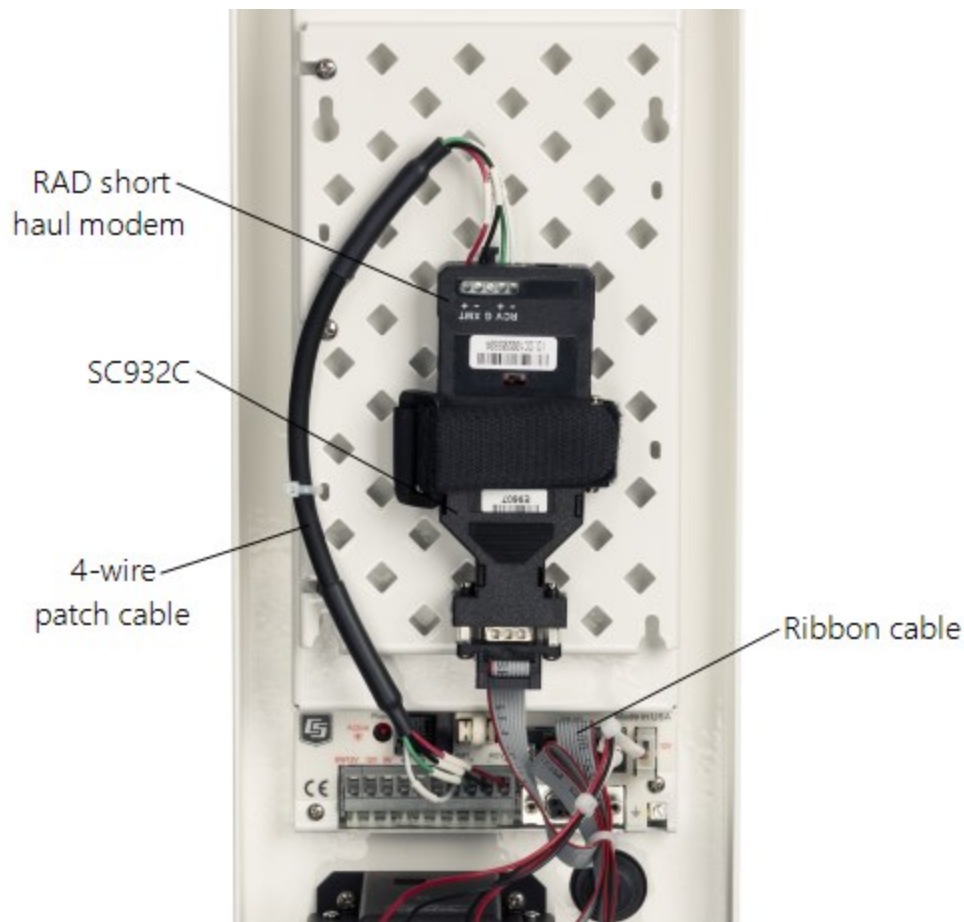
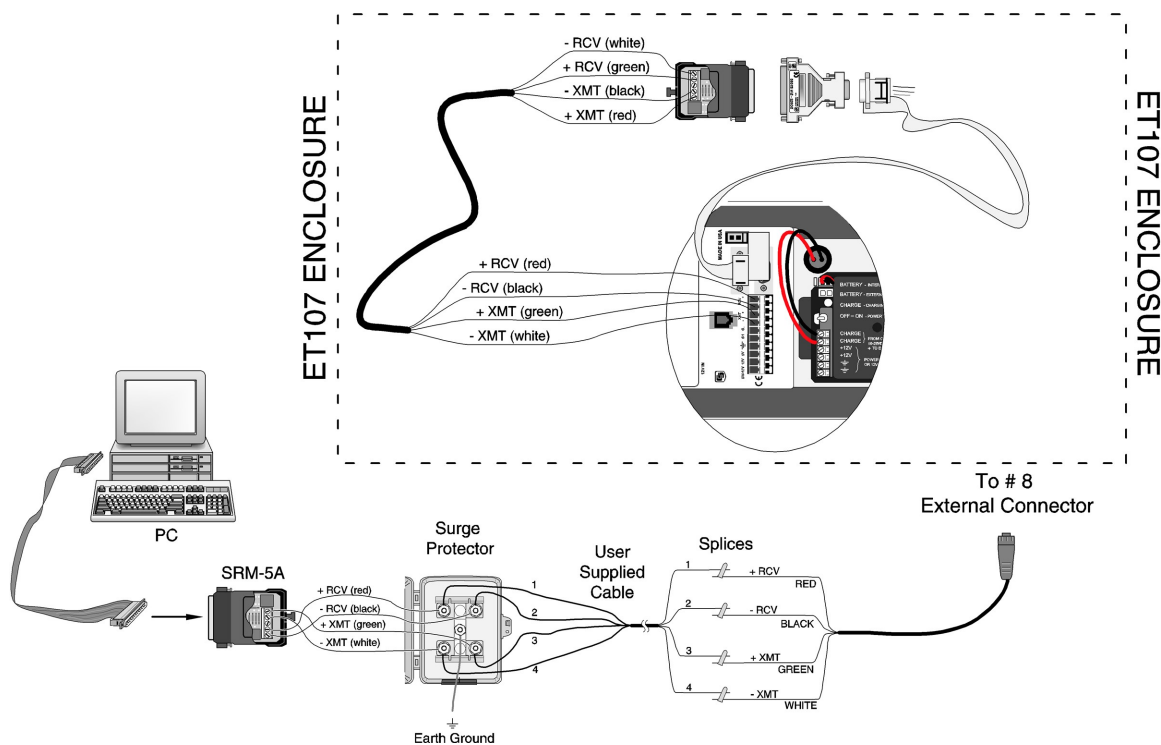

FIGURE 6-24. Short-haul modem mounting and connection (battery not shown)
FIGURE 6-25. Short-haul modem wiring diagram
Use the following procedure to install the short-haul modems (FIGURE 6-24 (p. 39) and FIGURE 6-25 (p. 40)).
4. Connect the SC932C 9-pin port to the internal enclosure **CS I/O** port with the ribbon cable supplied with the enclosure (FIGURE 6-24 (p. 39)).
Use the following procedure to install the short haul modems (FIGURE 6-25 (p. 40)).